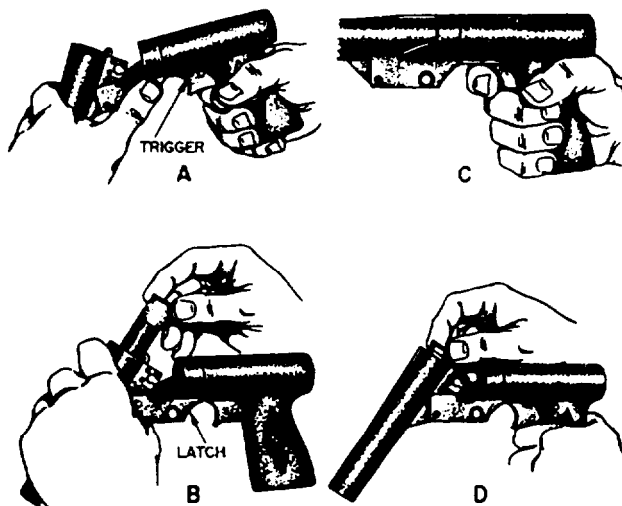

Figure 6-9.—Operation of the Mk 5 pyrotechnic pistol.
1. To load the pistol, depress the latch button below the barrel. At the same time, pull the barrel downward, as in view A of figure 6-9. Insert the signal shell (view B). Push the barrel upward until it latches closed. The pistol is now ready to fire.
2. To fire the pistol, aim it upward at the desired angle, normally 60 degrees, but clear of other ships or personnel. Bull the trigger, as shown in figure 6-9, view C. Keep your elbow slightly bent when firing, to absorb the shock of recoil and to prevent the pistol from knocking itself out of your hand.